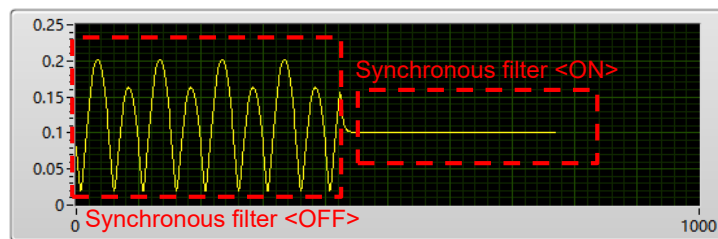

Fig.23 The effect of open synchronous filter.
- <ON> Turn on the synchronous filter. It's useful at a low reference frequency (< 200 Hz). When the input signal frequency is very low, the low pass filter can't get stable results or it needs a long time to do that. At this time, synchronous filter helps. The effect is shown in Fig.23.